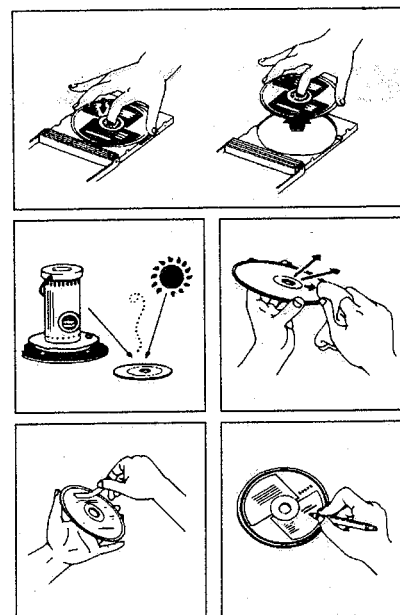

Fig. 5
- **Maintenance of discs (Fig. 5)**